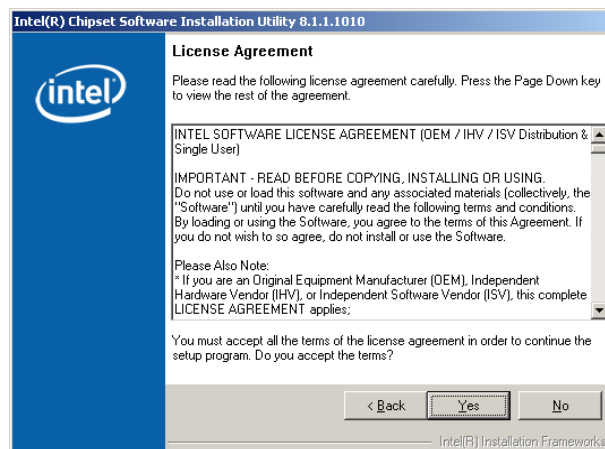

Figure 7-4: Chipset Driver Installation License Agreement
Step 11: The license agreement in **Figure 7-4** appears.